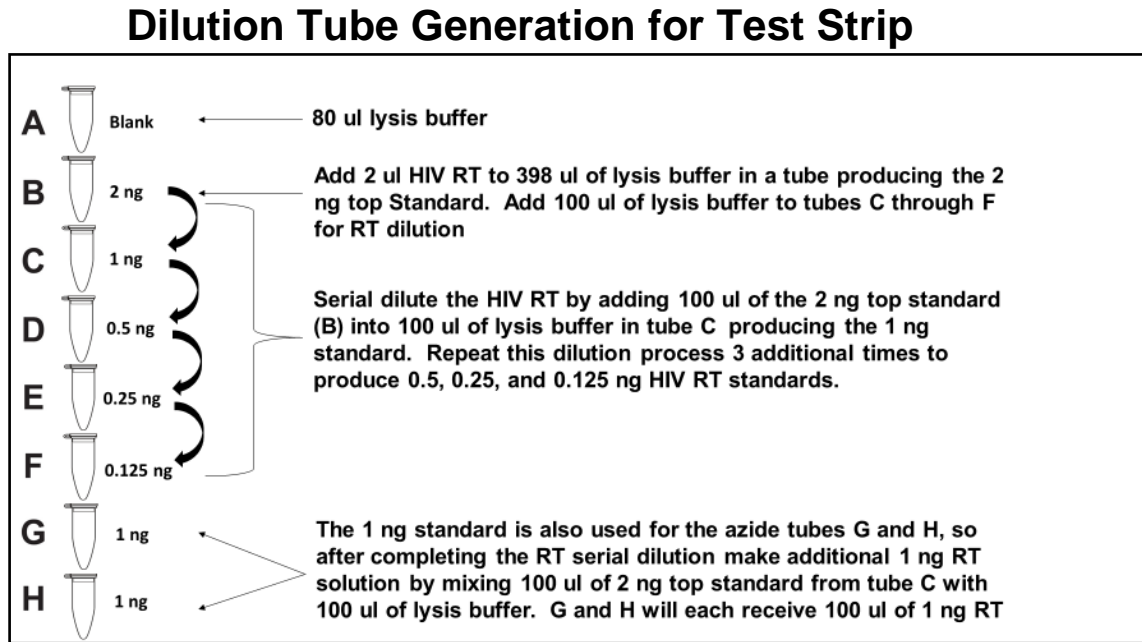

Figure 3. Set up for Dilution Tubes for Standard Curve and Azide Experiment
2) Figure 3 highlights the generation of the 8 dilution tubes. As depicted, Fig 3, tube A is the lysis blank, tube B-F is the HIV standard curve, and tubes G and H will contain 1 ng of HIV RT for use in the inhibitory azide experiment.
General Comments. When performing screening of test articles in the assay, design the experiments so that the highest concentration of test article requires a volume addition of no more than 20 μl into 20 μl of RB (do not dilute reaction buffer by more than 50% with test articles, 20-40% dilutions are best). The highest concentration for each test article may be different and require some experimentation to determine. The assay incubation tubes contain 40 μl of test article in RB, 80 μl of HIV RT in lysis buffer is added to start the RT reaction, so the test article concentration is diluted to 1/3 of the concentration prepared in RB. For example, Efavirenz was made-up to 50 μM , a serial dilution performed, and the assay run before the 1/3 adjustment of the concentration was made. The highest concentration dilution tube of 50 μM was really an effective concentration in the assay of 16.7 μM (Figure 3).